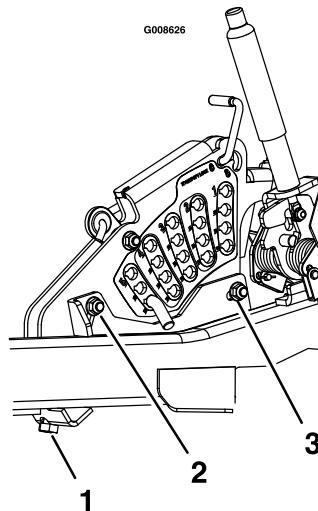

Figure 32
14. If the four deck links do not have enough adjustment to achieve accurate cut height with the desired rake, the single point adjustment can be utilized to gain more adjustment (see Figure 32).